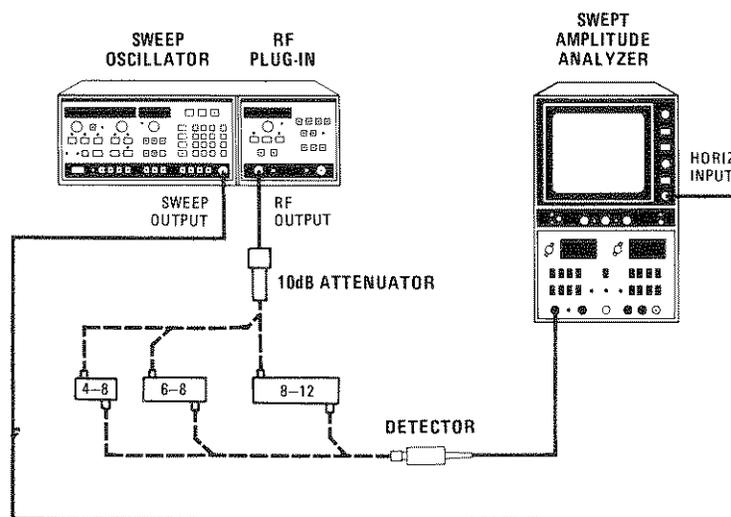

Figure 5-21. Band 1 Harmonics Test Setup
1. Connect equipment as shown in Figure 5-21, with the 4 to 8 GHz band pass filter in the RF path. Select 8350A **MOD** and **RF BLANK**. Sweep from 2 to 8.4 GHz at a leveled power of 13 dBm.